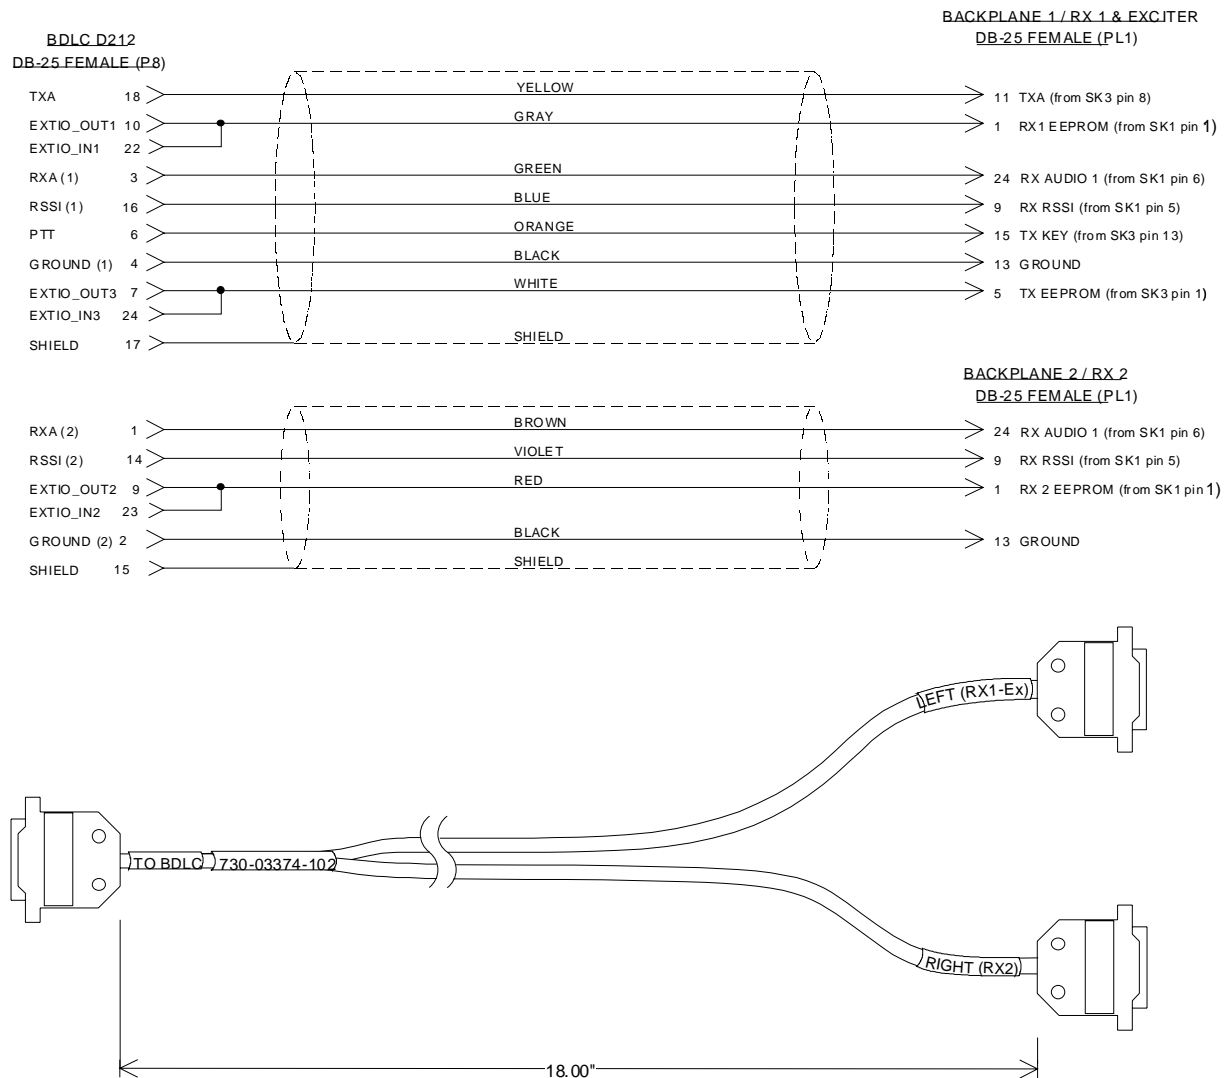

Figure 15 - BDLC^{PD} Y cable and pinout
- EXT RADIO/TEST - connects to the Radio assembly (see Figure 15)